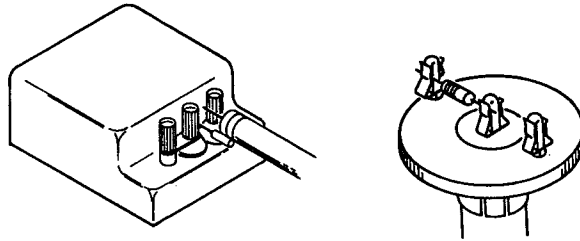

Figure 5-4. Connecting to Test Components
- b. Connect 4815A to precision components as shown in Figure 5-4, checking OHMS meter reading against readings below. MIN NOM and MAX values are derived from full scale reading + correction \pm tolerance, where tolerance is from the formula $\pm (\frac{f}{30 \text{ MHz}} + \frac{Z}{25K})\% \pm 4\%$ of F. S. Use frequency counter to set test frequency or change figures in MIN and MAX columns to indicate an additional $\pm 2\%$ from nominal.